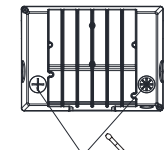

figure 4.4
Step 2: After adjusting the required control function(figure 4.3), tighten the metal plug and the plastic plug clockwise.(figure 4.4)